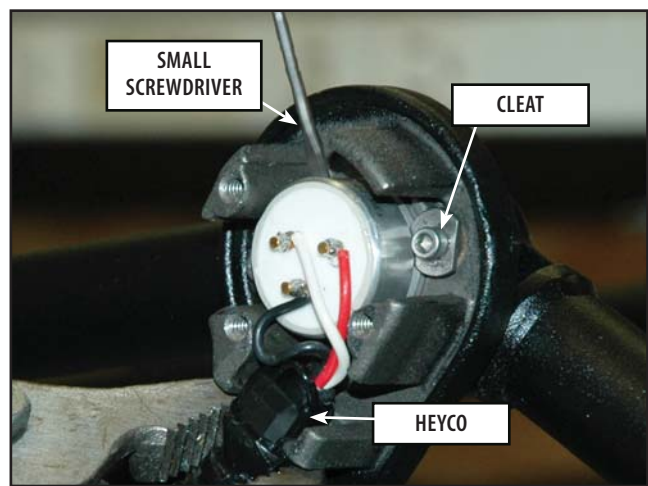

FIGURE 6.10
4. Using a 3/32" Allen wrench remove the two cleat screws. **Refer to Figure 6.10**
5. Using a Heyco Tool, squeeze the sides of the Heyco and pull out to remove. **Refer to Figure 6.10.**
6. Using a small Flathead screwdriver positioned behind the Potentiometer, apply just enough pressure to free the Potentiometer. **Refer to Figure 6.10.**